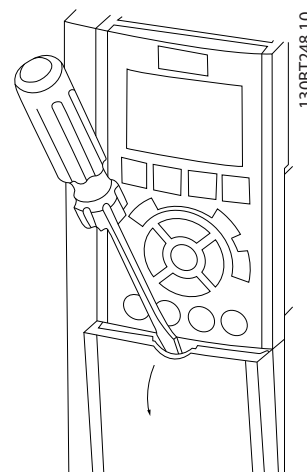

Figure 2.9 Control Wiring Access for A2, A3, B3, B4, C3 and C4 Enclosures
- Remove access coverplate with a screwdriver. See Figure 2.9.